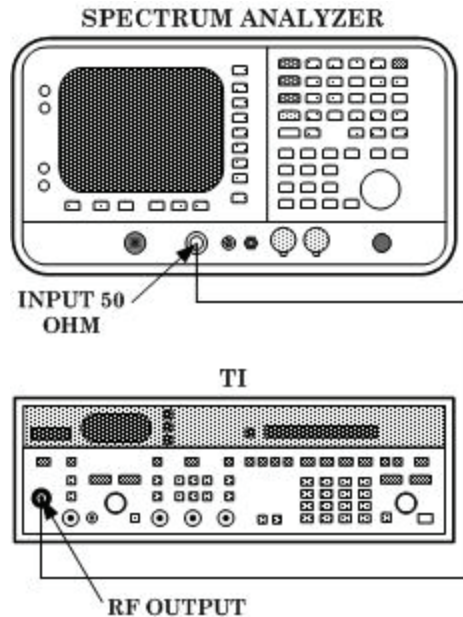

Figure 2. Sideband phase noise hookup.
- (1) Connect equipment as shown in figure 2.